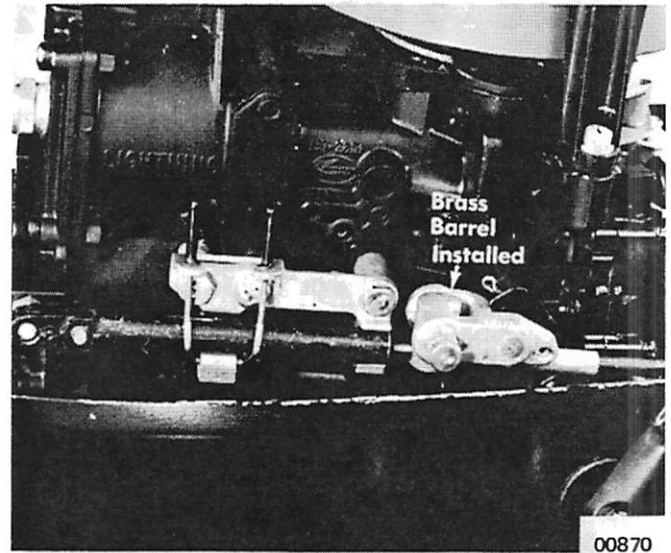

Figure 5. Clevis Pin in Position
5. Adjust brass barrel connector hole so that it aligns with clevis pin with shift lever in forward detent spring notch (under carburetor). Insert clevis pin thru barrel and opposite side of clevis and turn 90° to lock pin in place. (Figure 5)